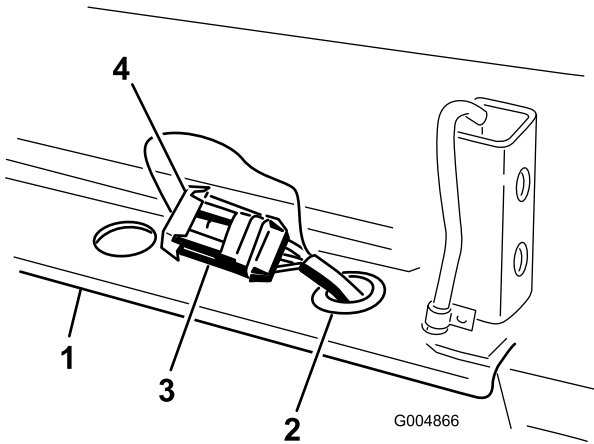

Figure 25
- 1. Insert the wires from the large harness connector down thru the right grommet in the rear frame mount (Figure 25).